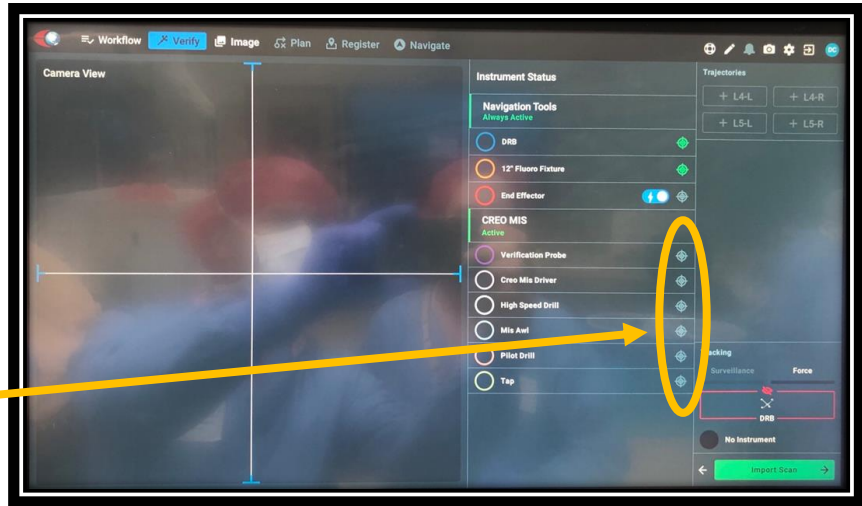

Figure 3
- In the **VERIFY** screen, navigation details such as Visibility, Location and Instrument Verification Status are displayed. Navigation is only possible with Instruments that have been successfully Verified. In the image shown (Figure 3), all CREO MIS Crosshair symbols to the right of the Instrument descriptions are currently **GREYED** out, indicating no instruments have been verified at this point in the procedure.